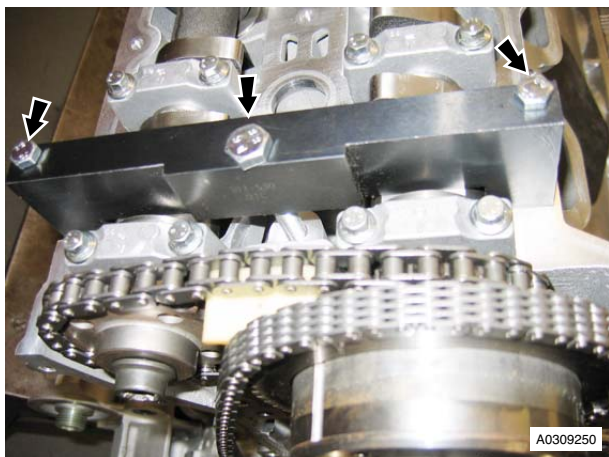

Figure 1 (Right Side Shown)
3. Remove the special tool (refer to Figure 1 - Right side shown).